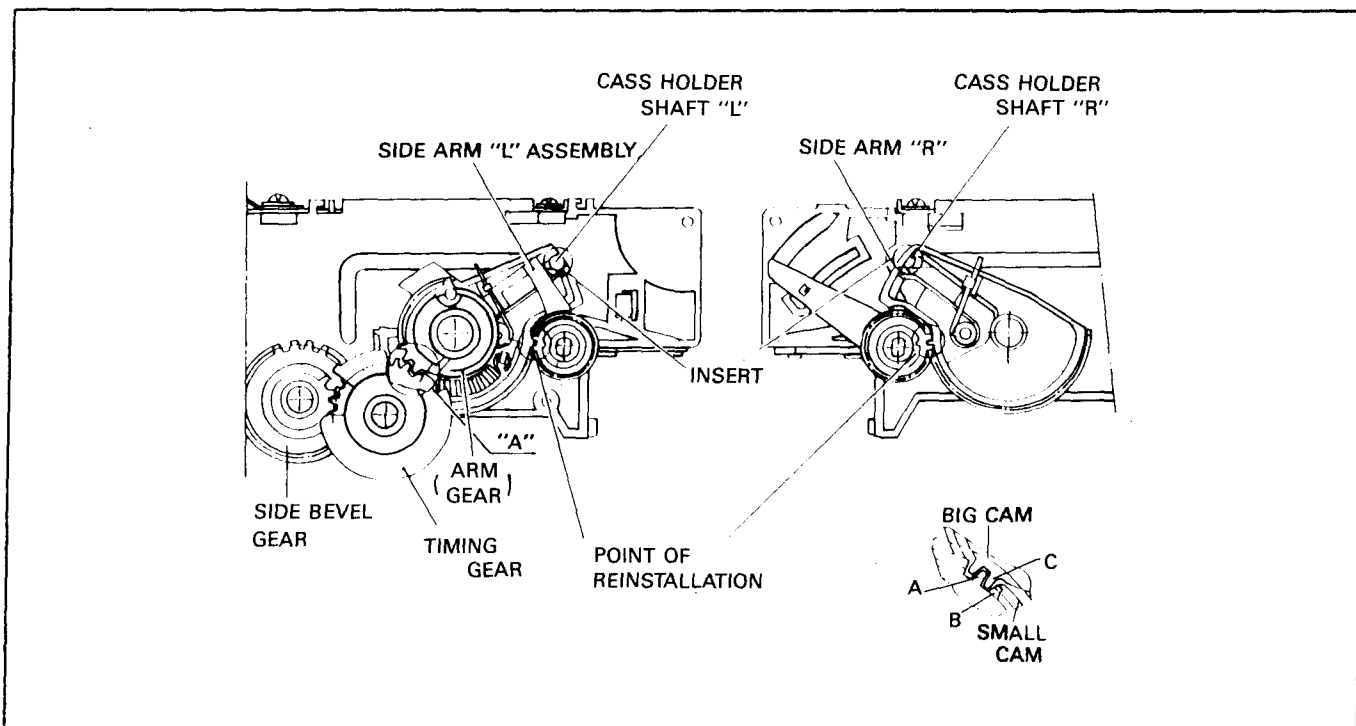

Fig. 19 Side Arm (R) and (L) Reinstallation
Fix at the reinstalling point of relay gear (R) and (L), and at this moment cassette holder shaft (R) (L) must be inserted in the groove of the side arm (R) (L) (Fig. 19)
•When assembling the timing gear, first tooth of the arm gear (C) must be fitted between the full tooth (A) and the half tooth (B) of the timing gear like the "A" part of the Fig. 19.